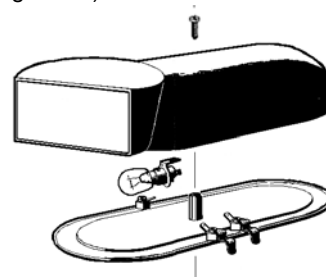

figure 10
- 3 Replacement of lighted top cover bulb: remove the fixing screw placed in the upper part of the top cover, remove the lower part and replace the bulb (using a 24-28V 21W max bulb). Reassemble the top cover and replace the fixing screw. (vedere figure 10)